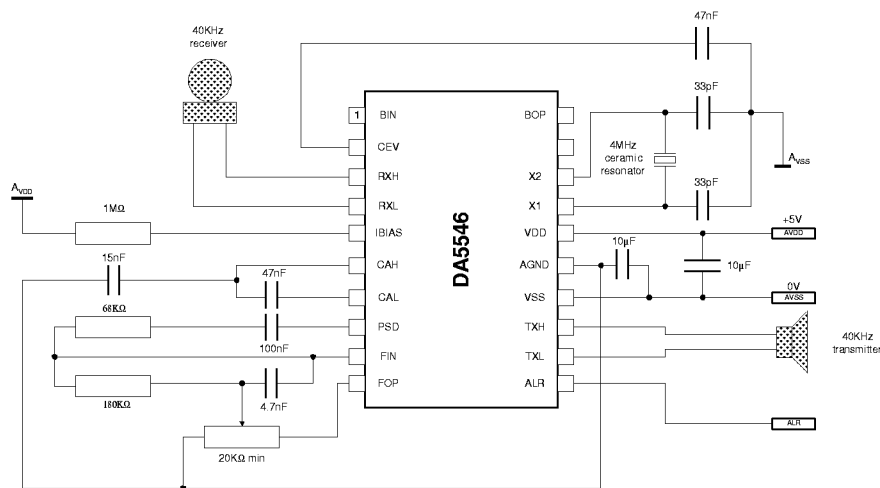
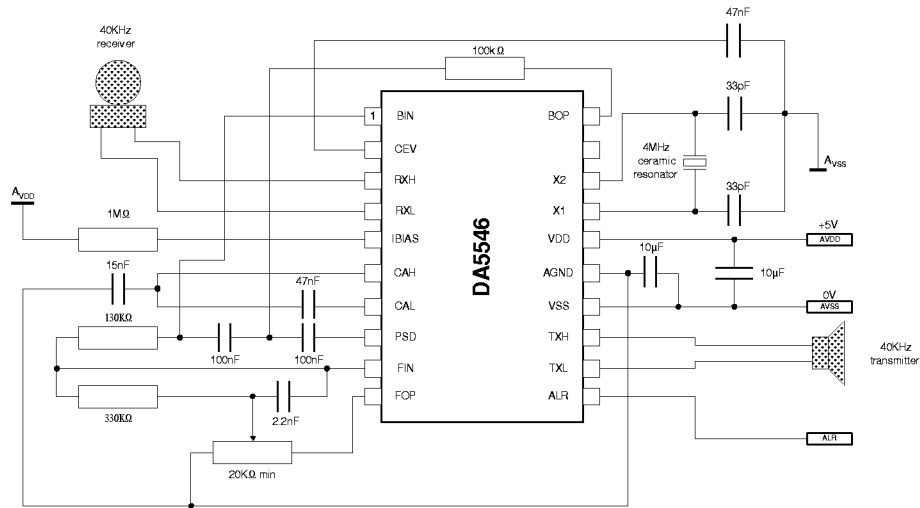

Figure 2 - Simple Filter
Figure 3 - Extra Air Movement Rejection Filter with Variable Gain
In the diagrams below (Figures 2 & 3) various configurations of air movement filter are shown :
- Figure 2 shows a simple 2nd order passive high-pass filter with variable gain. This is necessary for correct operation of the system as it provides good discrimination between air movement and slow moving objects. To increase the sensitivity, increase the value of the 180kΩ resistor and decrease the value of the parallel 4.7nF capacitor connected between FIN and FOP. To decrease the upper Doppler limit,
- Figure 3 shows a 3rd order active filter with variable gain using the uncommitted buffer op-amp available at pins BIN and BOP. This will give improved discrimination between air movement and slow moving objects over the passive filters shown in Figure 2. To decrease the upper Doppler limit, increase both the series 15nF capacitor connected to CAH and the parallel 2.2nF capacitor between FIN and FOP. To increase the lower Doppler limit, decrease the parallel 47nF capacitor between CAH and CAL and decrease the two series 100nF capacitors connected to PSD.